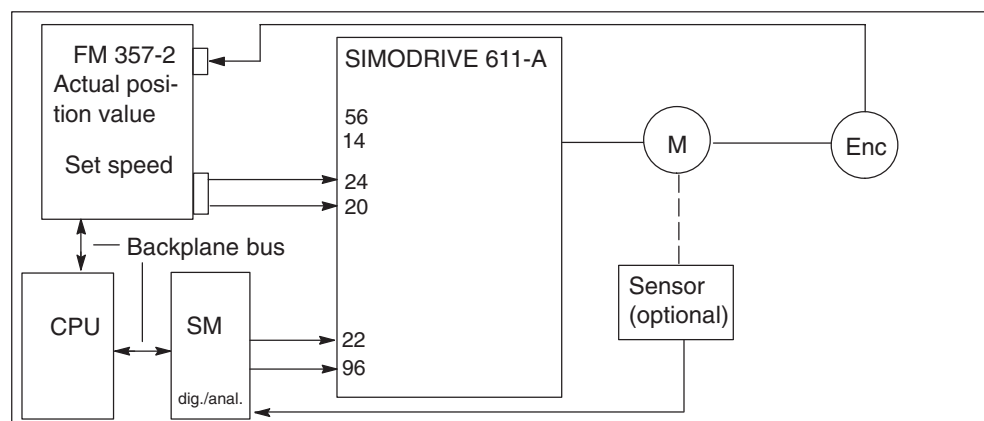

Fig. 9-46 Hardware connections between FM 357-2, signal module and SIMODRIVE 611-A (FDD)
Figure 9-46 shows the hardware connections between the FM357-2, signal module (SM) and SIMODRIVE 611-A (FDD).